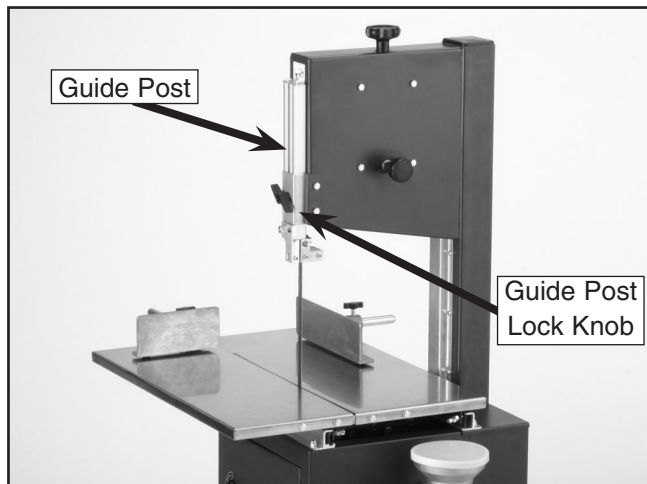

Figure 21. Guide post controls.
The guide post (**Figure 21**) connects the upper blade guide assembly to the bandsaw. The function of the guidepost is to allow the blade guide assembly to move up or down depending on the height of the meat being cut. The blade guide assembly must be no more than 1" from the top of the meat at all times—this positioning provides the greatest support to the blade.
3. Loosen the guide post lock knob shown in **Figure 21**.